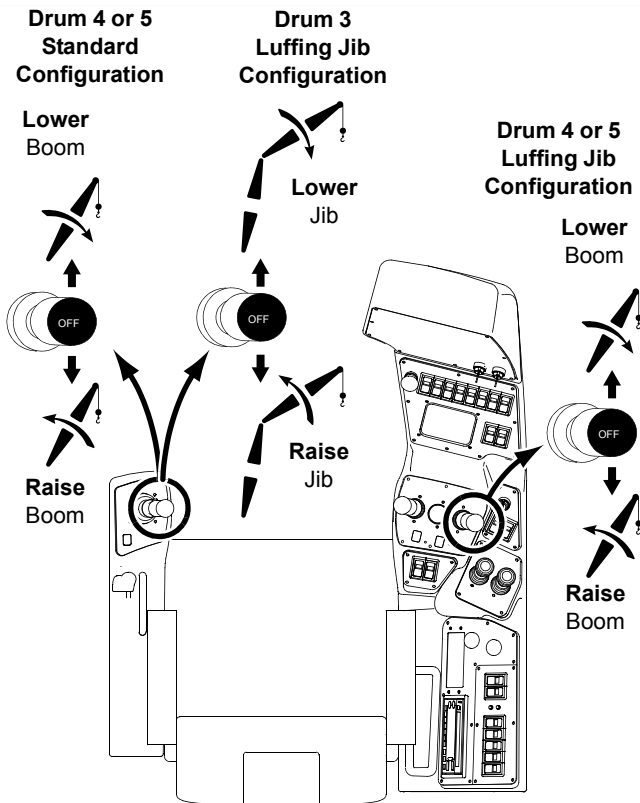

FIGURE 3-17
See Figure 3-17 for boom/mast hoist operation.
4. Push the boom/mast hoist handle forward to lower the boom or pull the handle back to raise it. See Figure 3-17.
See Figure 3-17 for luffing hoist operation.
When the crane is configured with a luffing jib (Drum 3), the multi-function handle on the left console controls the luffing jib drum (See Figure 3-17).
4. Push the luffing hoist handle (Drum 3) on the right console forward to lower the luffing jib. Pull the handle back to raise the luffing jib. See Figure 3-17.